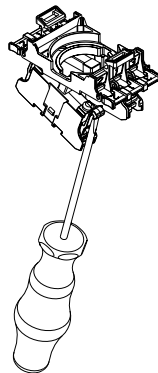

Fig. 12a
- 3a: Disassembly of the contact elements (see Fig. 12a)